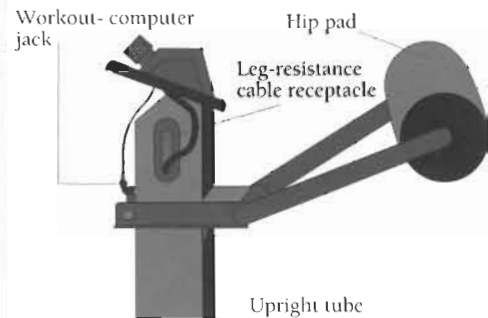
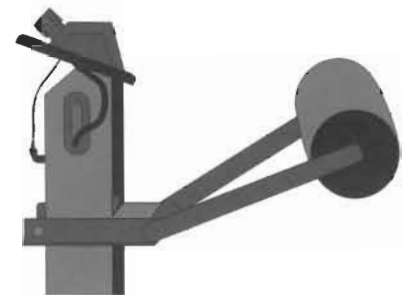
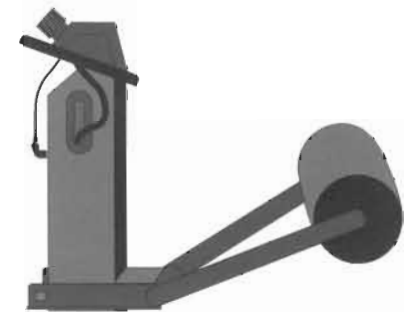

Figure 19
Figure 20
Figure 21
4. Position the hip pad on the upright tube below the workout computer jack. When properly adjusted, the top of the hip-pad assembly should be about one inch below your navel. The hip-pad assembly should be placed just below the workout computer jack for taller users (Figure 19); place it a few inches lower for average-height users (Figure 20); shorter users should position it several inches below the workout computer jack (Figure 21).